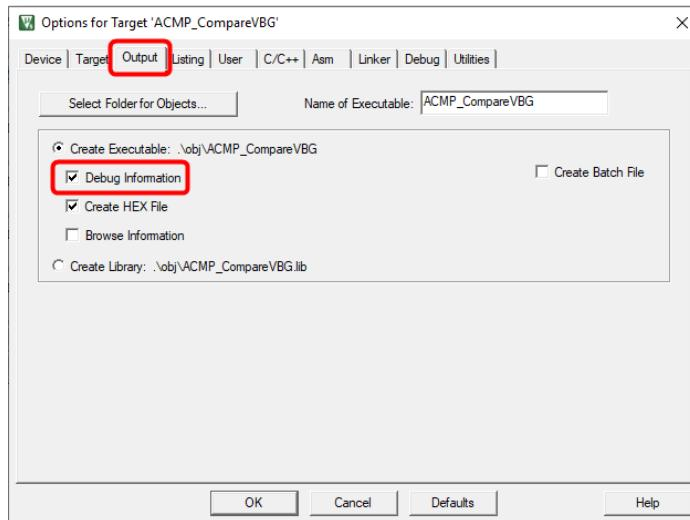

Figure 5.2-11 Enable Debug Information for Keil MDK
- (2) Invoke **Project** → **Options for Target** → **Output**, and enable the **Debug Information** option, as shown in Figure 5.2-11.